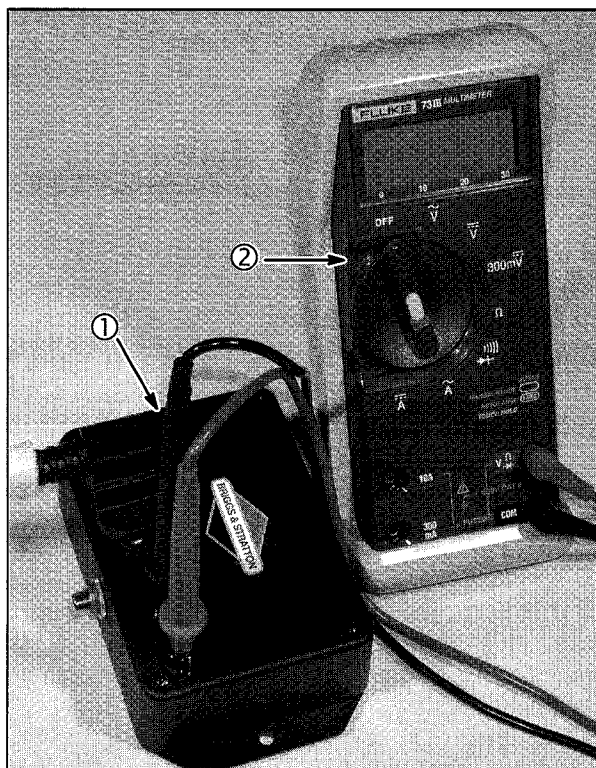

Fig. 38
- Digital Multimeter (2), Tool #19464
- PowerLink™ Test Box (1) #19528
2. Install alternator harness plug into socket in PowerLink™ Test Box #19528 (1), Fig. 38.